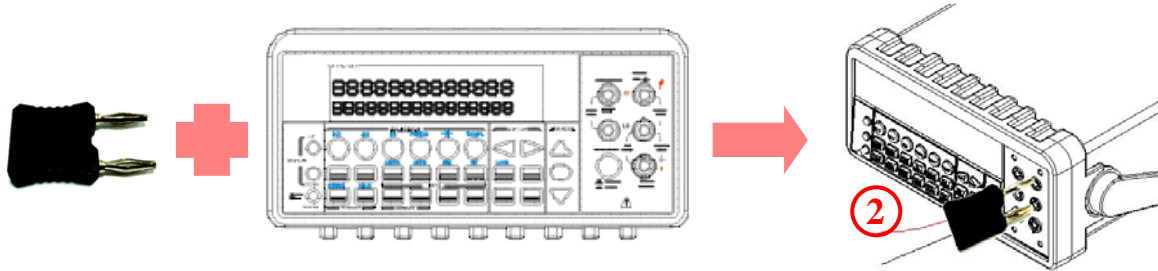

Figure 3-12
- ① Use terminals switch to select terminals on the front panel.
- ② To measure thermocouple must be via thermocouple adapter and the low thermal patch leads as shown in **Figure 3-12**. (When the mentioned modules are well connected as the following figure, please go to the next step.)
- ③ Configure the thermocouple type and unit using CONFIG + SHIFT + TCOUPL(TEMP),